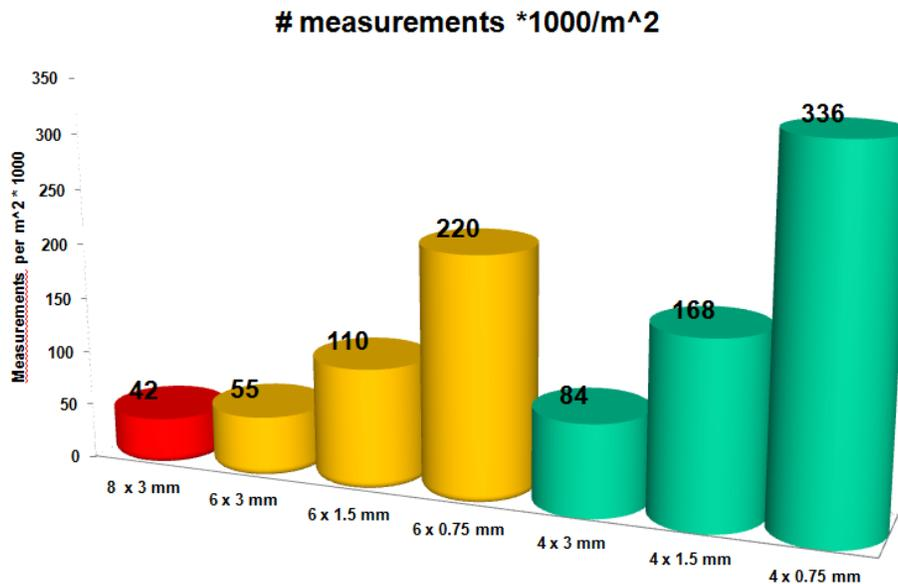

Figure 3: Graph indicating different number of measurements per square meter for different tool and sensor designs.
Figure 2 shows three different sensor carrier designs. Left hand side UM (8x3mm), center UMh, high resolution (6x3mm) and right hand side Ump, pitting configuration (1.5x4mm). Last design is usually used for inline inspections today. Figure 3 depicts the different numbers of measurements per square meter for initial UT (UM), UMh and the actual UM pitting (UMp) tool design. The high number of measurements offers excellent input for defect assessment calculation methods. Pipeline operator will have the relevant information available to manage their pipeline and asset integrity according to international standards and rules and without being too conservative.